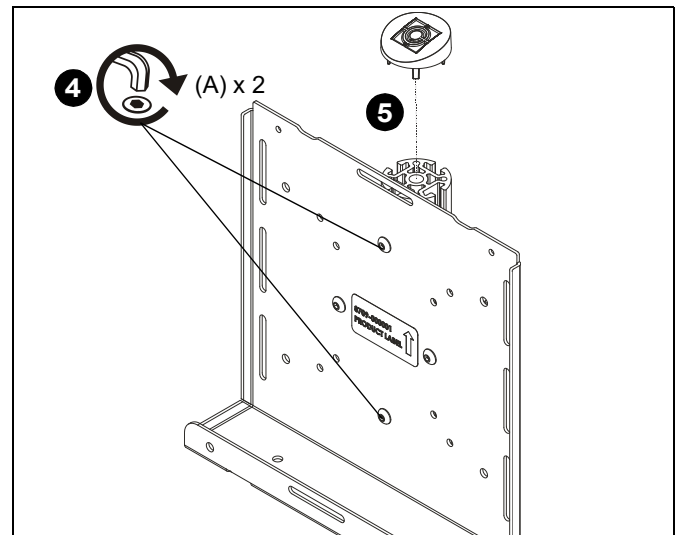

Figure 4
4. Tighten two #10-24 x 1/2" button head cap screws (A) when desired height is reached. (See Figure 4)
5. Re-install column cap to column. (See Figure 4)